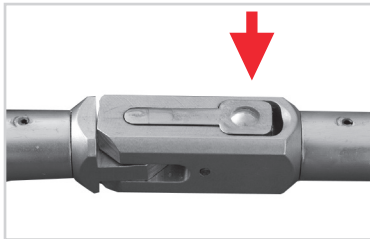

Figure 5 Press to unlock
2. Hold the right and left sections at the same time and press the central lock (Figure 5). Remove both sections from each other until they are fully open.